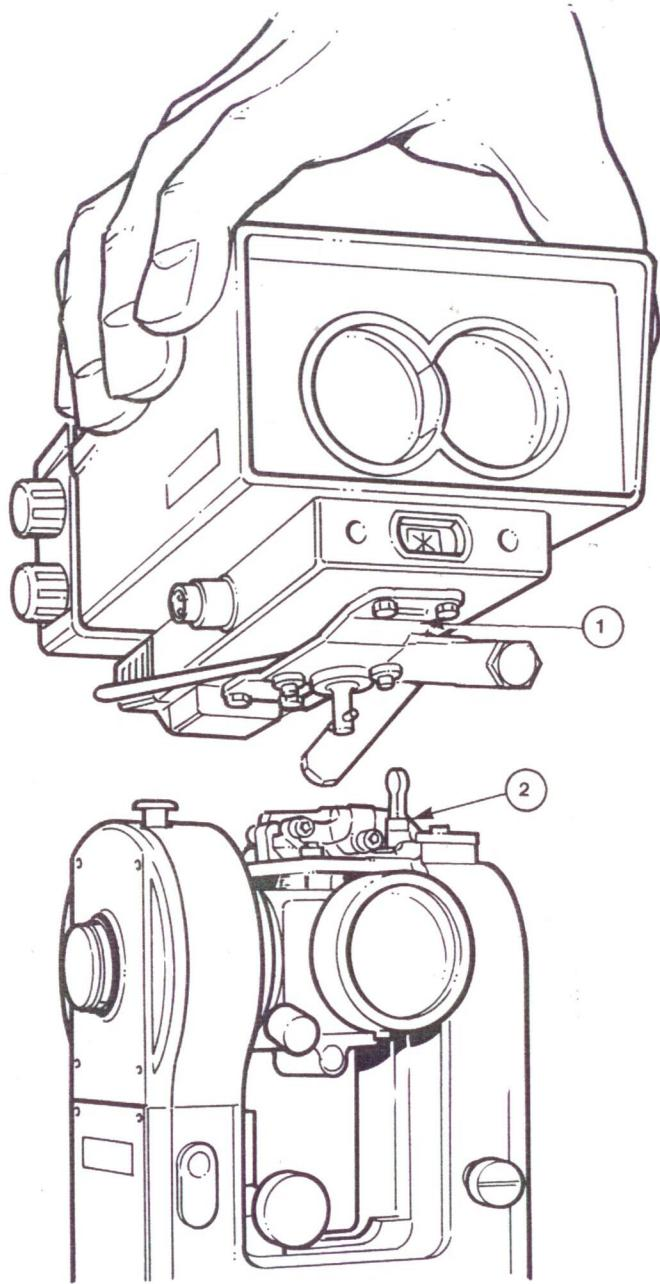

Fig. 2.1 Geodimeter 220 – General Mounting Detail
The adapter consists of two main components: the instrument adapter (1) and the theodolite adapter (2). Fig. 2.1 details the general mounting detail.